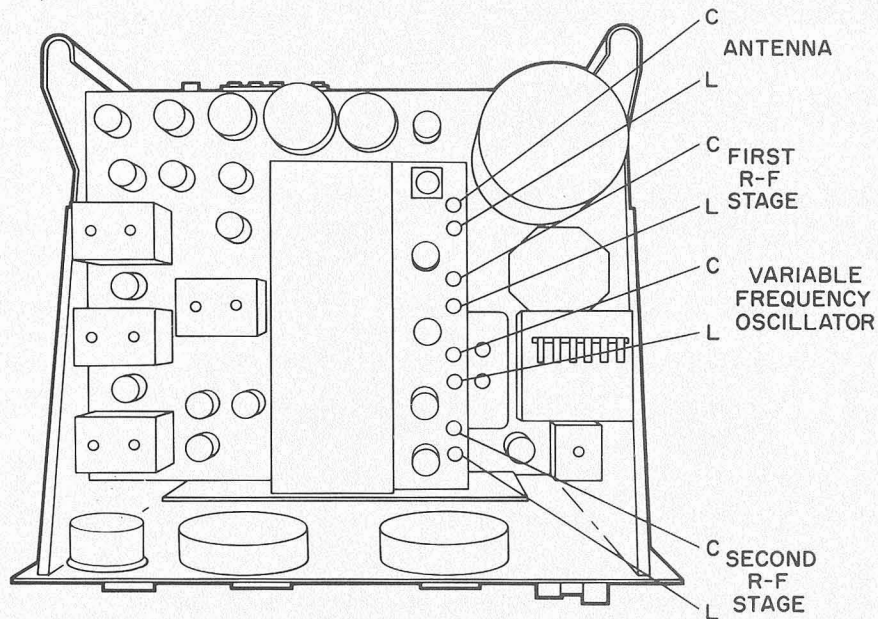
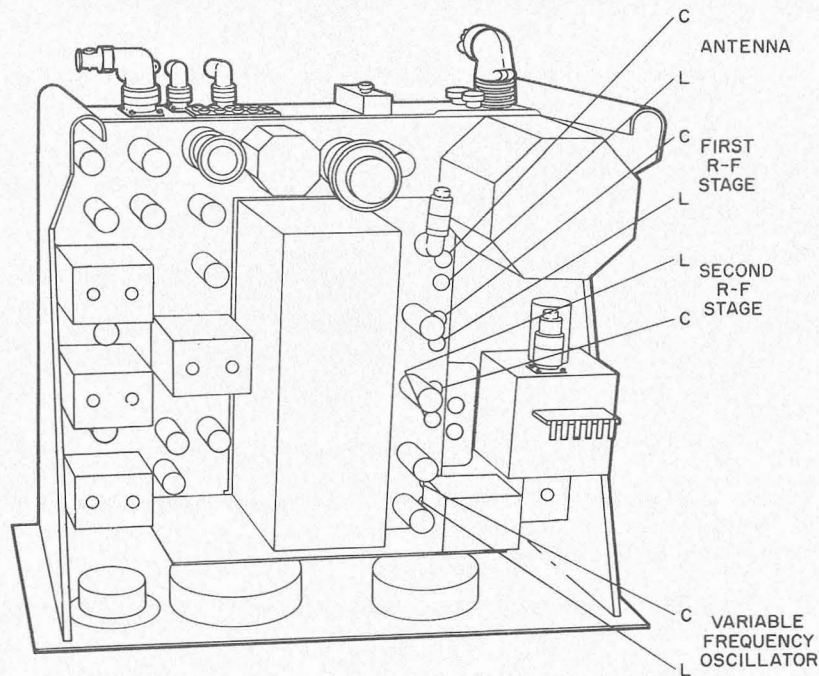

Figure 2-5. Radio Receiver SP-600-JX-21, Top View of R-F Section
Figure 2-6. Radio Receiver SP-600-JX-17, Top View
- (2) Set the MOD-CW switch on the radio receiver to the MOD position.
- (3) Set the SELECTIVITY switch on the radio receiver to the 3 NON-XTAL position.
- (4) Set the MULTIPLIER switch on the signal generator to the . 1 position and adjust the CARRIER CONTROL until an indication of 100 is obtained on the signal generator output meter.
- (5) Adjust the MICROVOLTS control on the signal generator until an indication of 30 is obtained on the upper scale of the signal generator output meter.
- (6) Set the MOD SELECTOR switch on the signal generator to the 400 cycle position.
- (7) Set the METER READS switch on the signal generator to the % MOD position and adjust the % MODULATION control until an indication of 30 is obtained on the lower scale of the signal generator output meter.
- (8) Set the METER READS switch on the signal generator to the RF position.
- (9) Rotate the BAND CHANGE switch on the radio receiver until the indication 0. 54-1. 35 appears in the MEGACYCLES window.
- (10) Rotate the radio receiver TUNING control until an indication of 0. 56 megacycle is obtained on the main tuning and vernier dials.
- (11) Adjust the AUDIO GAIN control on the radio receiver until an indication of 2. 45 volts is obtained on the multimeter.
- (12) Refer to figure 2-5 for Radio Receiver SP-600-JX-21 or figure 2-6 for Radio Receiver SP-600-JX-17. Remove the metal caps and adjust, in turn, variable-frequency oscillator L, antenna L, first r-f stage L, and second r-f stage L until a maximum indication is obtained on the multimeter.
- (17) Adjust the CARRIER CONTROL on the signal generator until an indication of 100 is obtained on the signal generator output meter.
- (18) Adjust the MICROVOLTS control on the signal generator until an indication of 30 is obtained on the upper scale of the signal generator output meter.
- (19) Set the MOD SELECTOR switch on the signal generator to the 400 cycle position.
- (20) Refer to figure 2-5 for Radio Receiver SP-600-JX-21 or figure 2-6 for Radio Receiver SP-600-JX-17. Adjust, in turn, variable-frequency oscillator C, antenna C, first r-f stage C, and second r-f stage C until a maximum indication is obtained on the multimeter.
- (21) Rotate the CARRIER CONTROL on the signal generator fully counterclockwise.
- (22) Set the MOD SELECTOR switch on the signal generator to the OFF position.
- (23) Repeat step b. (4) through (6) and (8) through (22).
- (24) Rotate the signal generator tuning dial until an indication of 1.4 megacycles is obtained on the frequency and index scales.
- (25) Rotate the BAND CHANGE switch on the radio receiver until the indication 1.35-3.45 appears in the MEGACYCLES window.
- (26) Rotate the radio receiver TUNING control until an indication of 1.4 megacycles is obtained on the main tuning and vernier dials.
- (27) Repeat step b. (17) through (19).
- (28) Refer to figure 2-5 for Radio Receiver SP-600-JX-21 or figure 2-6 for Radio Receiver SP-600-JX-17. Adjust, in turn, variable-frequency oscillator L, antenna L, first r-f stage L, and second r-f stage L until a maximum indication is obtained on the multimeter.
- (29) Repeat step b. (13) and (14).
- (30) Set the FREQUENCY BAND SWITCH on the signal generator to the Band F position and rotate the signal generator tuning dial until an indication of 3.4 megacycles is obtained on the frequency and index scales.
- (31) Rotate the radio receiver TUNING control until an indication of 3.4 megacycles is obtained on the main tuning and vernier dials.
- (32) Repeat step b. (17) through (19).
- (33) Refer to figure 2-5 for Radio Receiver SP-600-JX-21 or figure 2-6 for Radio Receiver SP-600-JX-17. Adjust, in turn, variable-frequency oscillator C, antenna C, first r-f stage C, and second r-f stage C until a maximum indication is obtained on the multimeter.
- (34) Rotate the CARRIER CONTROL on the signal generator fully counterclockwise.
- (35) Set the MOD SELECTOR switch on the signal generator to the OFF position.